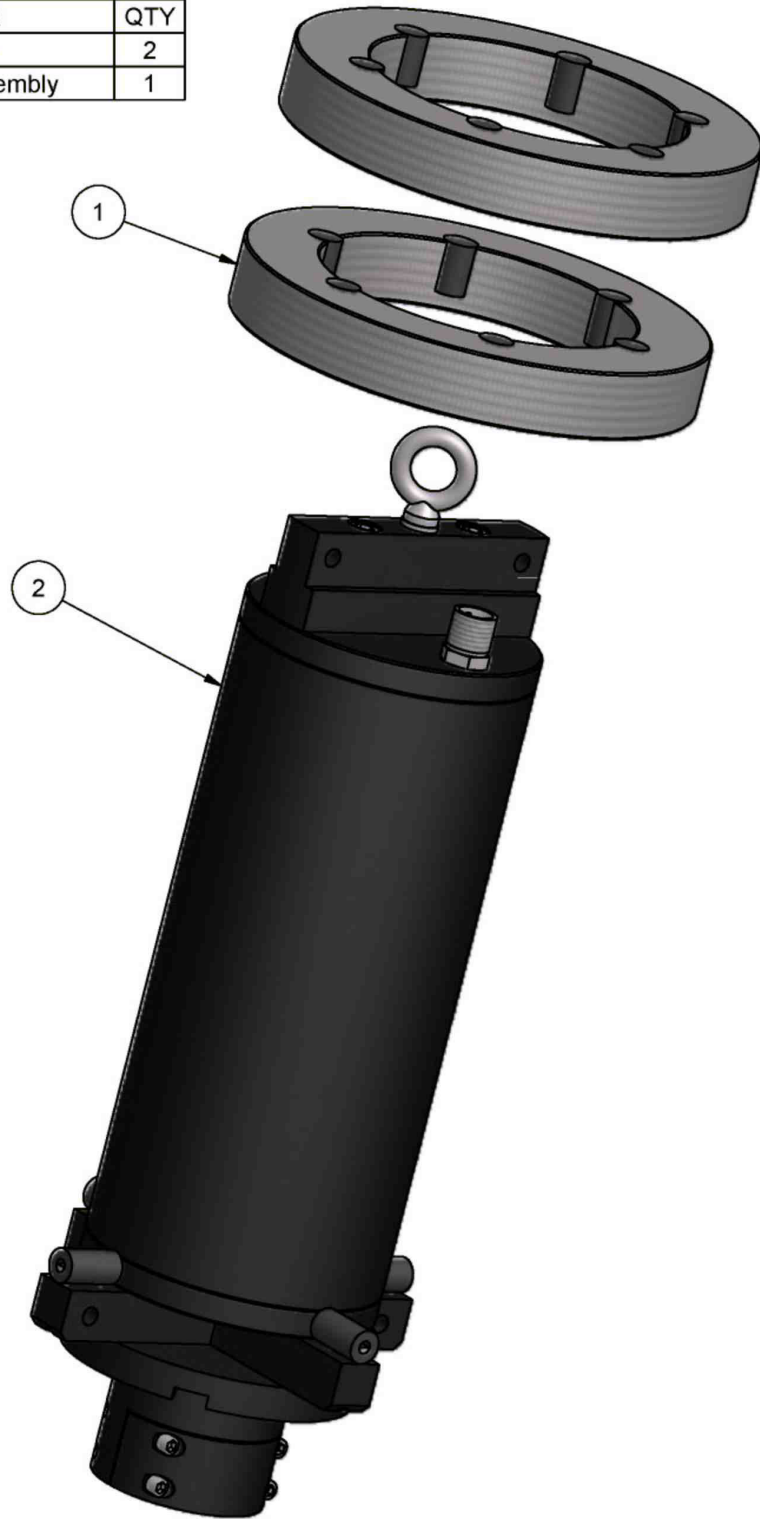

Figure A1.3 Add-on Weight Accessory Installation.
- Add-on Weight Accessory (Figure A1.3) – each weight adds 43 lb (20 kg) of static driving force to increase penetration. Up to 4 weights can be used to add up to 172 lb (80 kg) of additional static driving force. Two weights are provided with the power head as part of the standard system configuration; additional weights can be ordered separately.